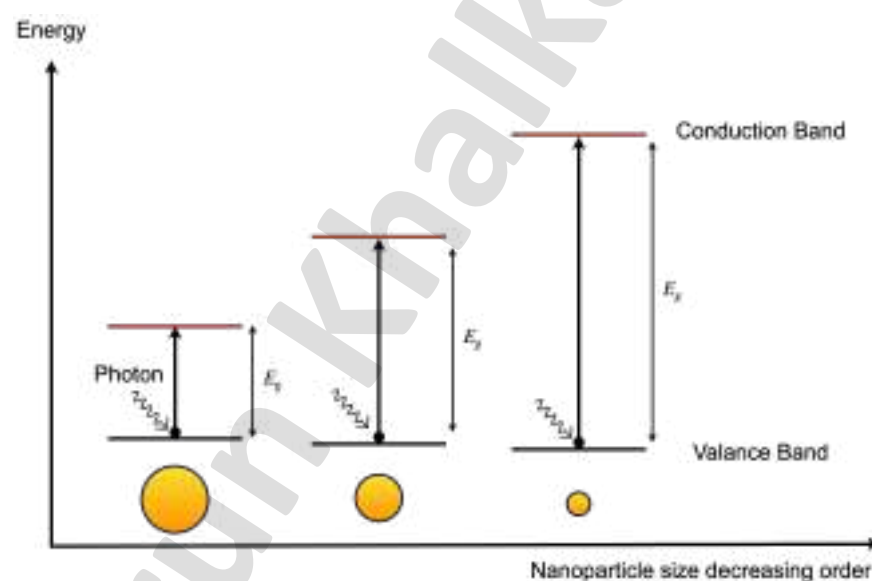

Fig. 18: Band gap increases as size of nanoparticles decreases.
- A larger band gap means that more energy is required to excite an electron from the valance band to the conduction band and hence light of a higher frequency and lower wavelength would be absorbed. Hence the band gap of nanoparticles increases with decrease in size as shown in Fig. 18.